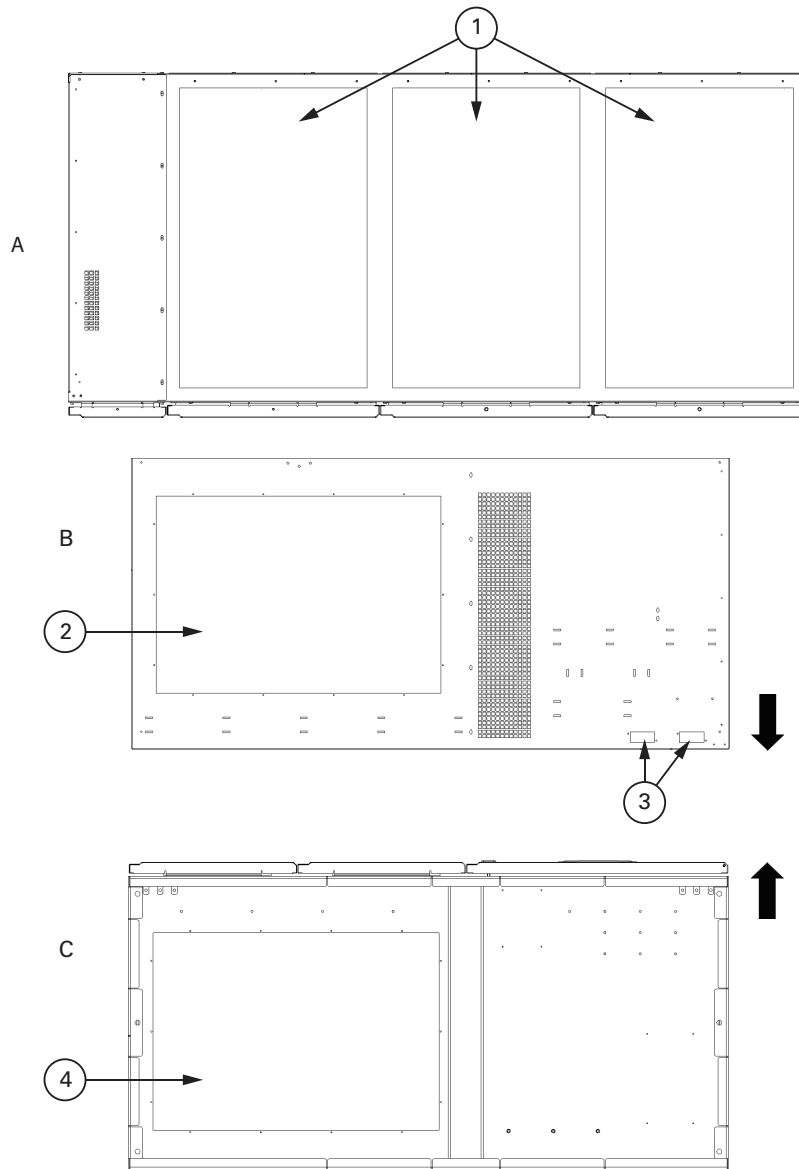
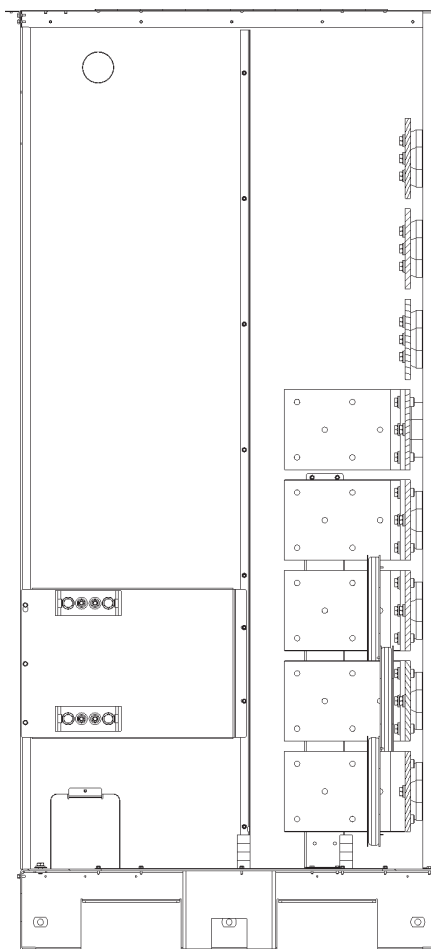
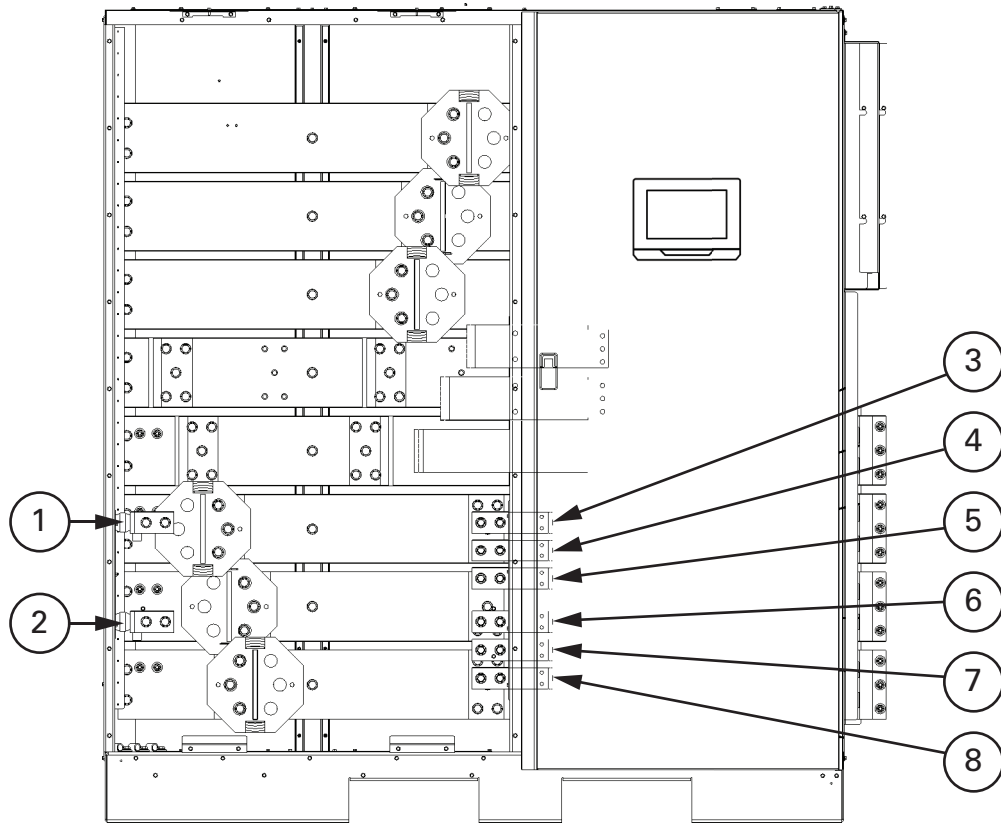

Figure 4-14. Conduit and wire entry locations
Figure 4-19. UPS ISBM section power terminal detail BB - separate battery
Figure 4-21. Front view. Separate battery configurations
Remove the UPS cabinet top or bottom conduit landing plate to drill or punch conduit holes (see Figure 4-14).
3. Route the input and output cables/busbars through either the top or bottom of the cabinet to the UPS terminals. See Figure 4-14 through Figure 4-19 for wiring access information and common rectifier feed terminal locations.
1. Route the battery cables between the UPS ISBM section and the battery system or battery disconnect. See figure Figure 4-14 through Figure 4-19 and Figure 4-21 for wiring access information and terminal locations.